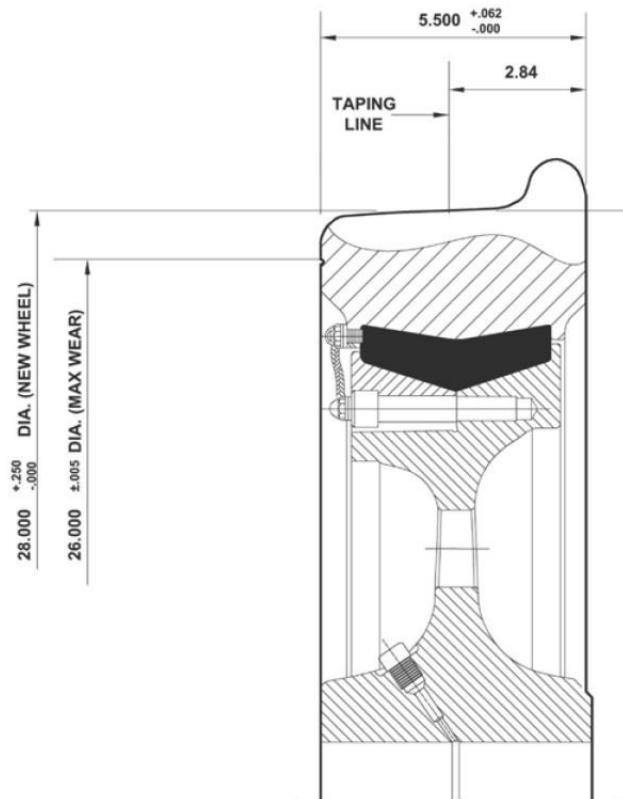

Figure 2 - TRUCK WHEEL PROFILE
- b. Wheel Dimensional Data and Wheel Dimensions shown in the Fig 2,
4. Measure /check the re-profiled Wheels for New Diameter and Profile, according to the condemning limits shown in Wheel Dimensional Data in Fig 2.